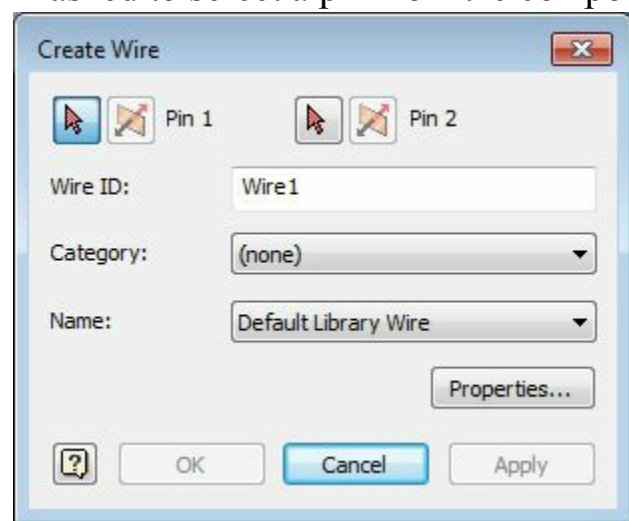

Figure-39. Create Wire dialog box
- Click on the **Create Wire** tool from the **Create** panel in the **Cable and Harness** contextual tab of the **Ribbon**. The **Create Wire** dialog box will be displayed; refer to Figure-39. Also, you are asked to select a pin from the component.